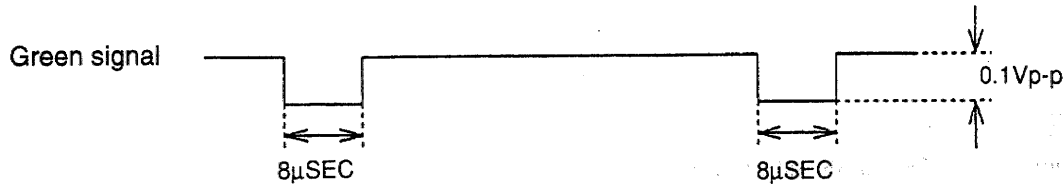

Figure 3-2-1 Green Signal Blanking Waveform
- (1) Disconnect external signals.
- (2) Connect a probe to the emitter of Q715.
- (3) Turn VR812 fully counterclockwise to increase the brightness all the way.
- (4) Adjust VR705 until the green waveform is 8 ± 0.1 [usec] as shown in Figure 3-2-1.
- (5) Also adjust VR812 until the setup level is 0.1 ± 0.02 [-0] [Vp-p] as shown in Figure 3-2-1.